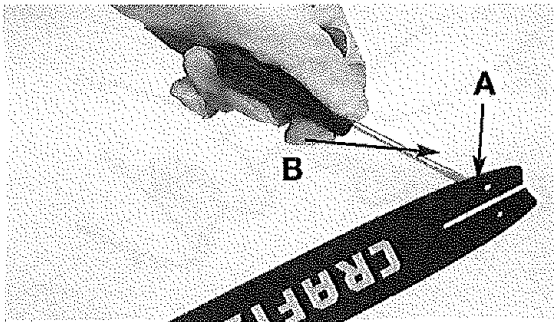

Fig. 38
BAR GROOVES (B) Bar grooves (or rails which support and carry the chain) should be cleaned if saw has been used heavily or if saw chain appears dirty. Rails should always be cleaned every time saw chain is removed. (Fig. 38)
OIL PASSAGES (A) Oil passages on the bar should be cleaned to ensure proper lubrication of the bar and chain during operation. This can be done using a soft wire small enough to insert into the oil discharge hole. (Fig. 38)